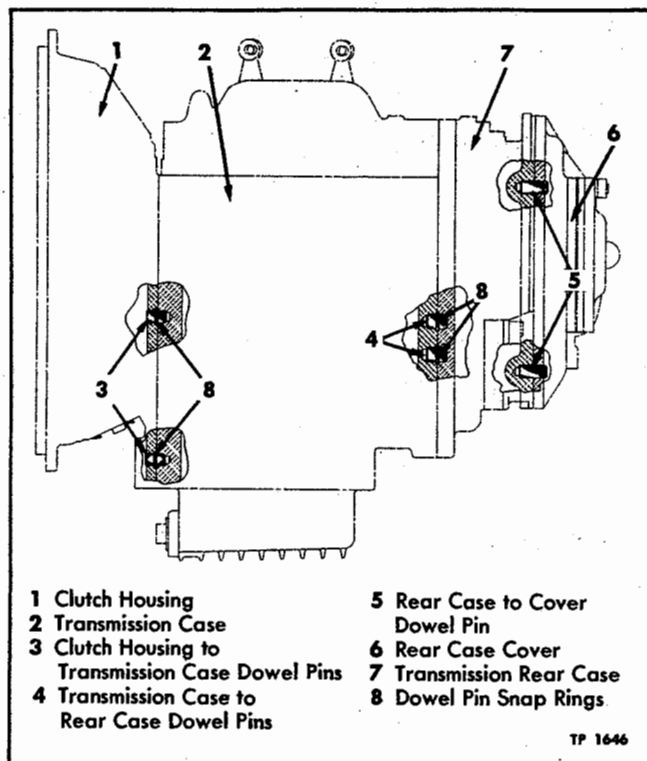

Figure 8—Transmission Case Dowel Pins
Key numbers in text refer to figure 8.
Clutch housing and transmission angle drive case are held in proper alignment with transmission main case by dowel pins (fig. 8). Two dowels (3) are used at front of main case and two (4) are used at rear of the main case. Angle drive case cover (6) which supports mainshaft rear bearing is also dowelled onto angle drive case.
3. Remove stud nuts and separate the two cases; then add counterbore in angle drive case to accommodate oversize dowel pin snap rings (8, fig. 8).